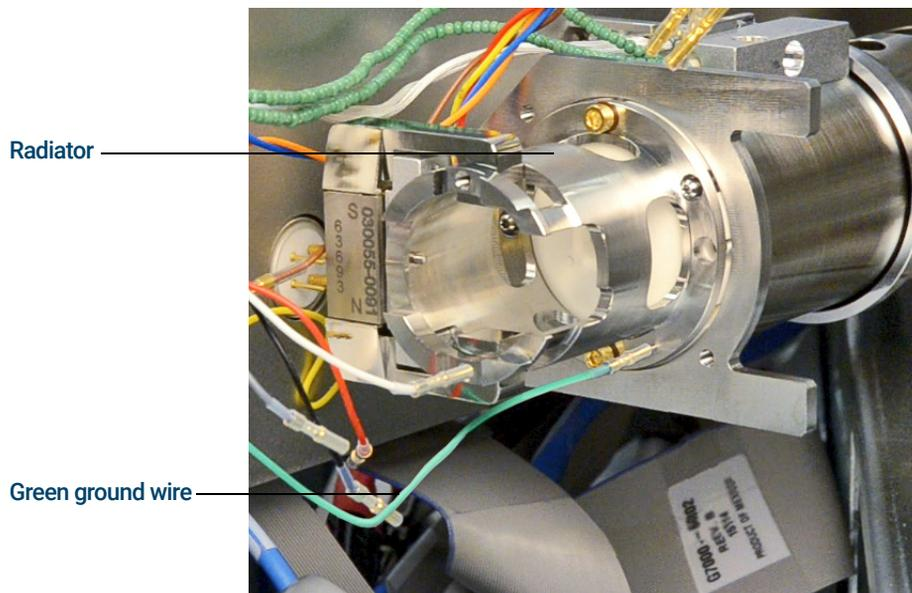

Figure 73 CI Source radiator
- 2 Disconnect the green ground wire from the radiator. (See Figure 73.)